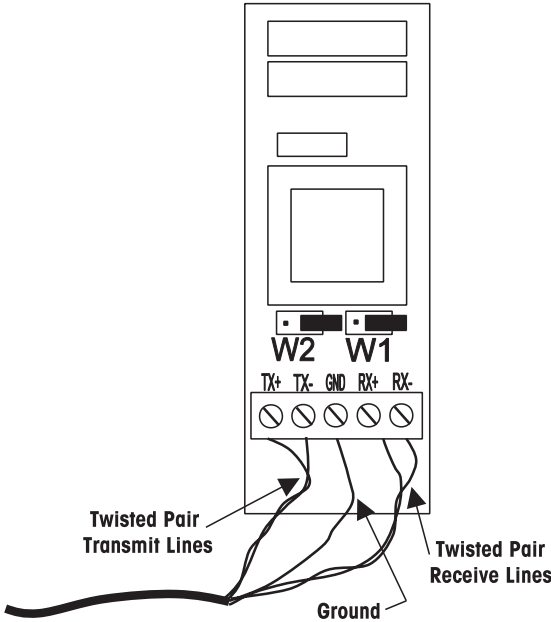

Figure 3-10. RS422/485 Typical 4-Wire Duplex Connection.
The RS422/485 Communication board can be wired to operate in a 4-wire duplex or 2-wire half duplex mode. When RS422/485 is installed, note the jumper arrangement shown in Figure 3-10 and 3-11 RS422/485 Typical 4-Wire and Typical 2-Wire Connections.
3. Connect the interface cable to the computer and the other end of the cable as shown in Figures 3-10 or 3-11.